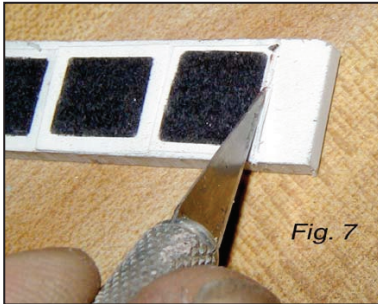

Fig. 7
Step 4: Make the control buttons with the supplied plastic strip and template, securing the template with Glue Stik and scoring and snapping the plastic with your hobby knife, then sand the edges to size and sand the corners round [Figs. 7 through 9].